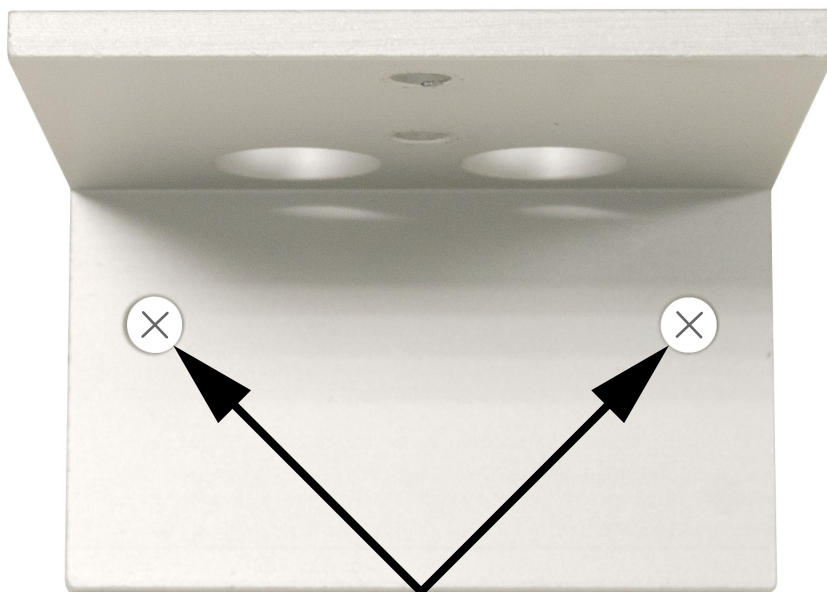

Figure 3. Mark the drilling locations on the wall using the screw holes in the wall mounting bracket as a guide
- 2 Hold the wall mounting bracket against the wall in the location that you plan to install it, and use a pencil to mark the drilling location for the screw holes (**Figure 3**).